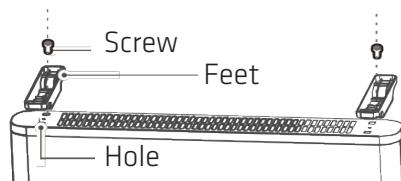

Figure 2
2. Refer to fig.2. Remove the feet. Align the buckle on the feet with the holes, and push the supporting foot until the holes on the support align with the screw hole on the machine.